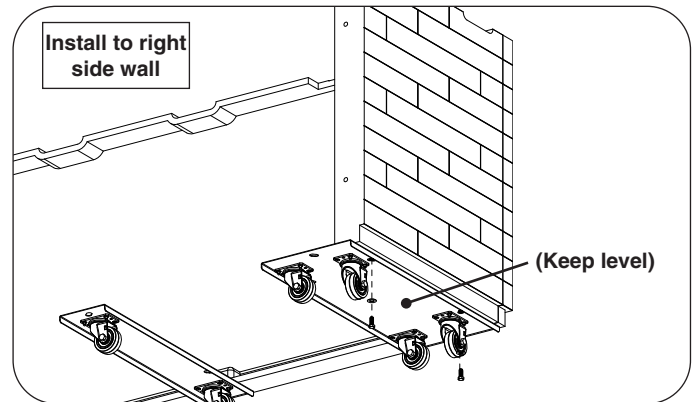

Fig. 5-1 Install right wheel assembly to bottom of right side wall
3. Repeat for the right side wall using the right wheel assembly as shown in Fig. 5-1.